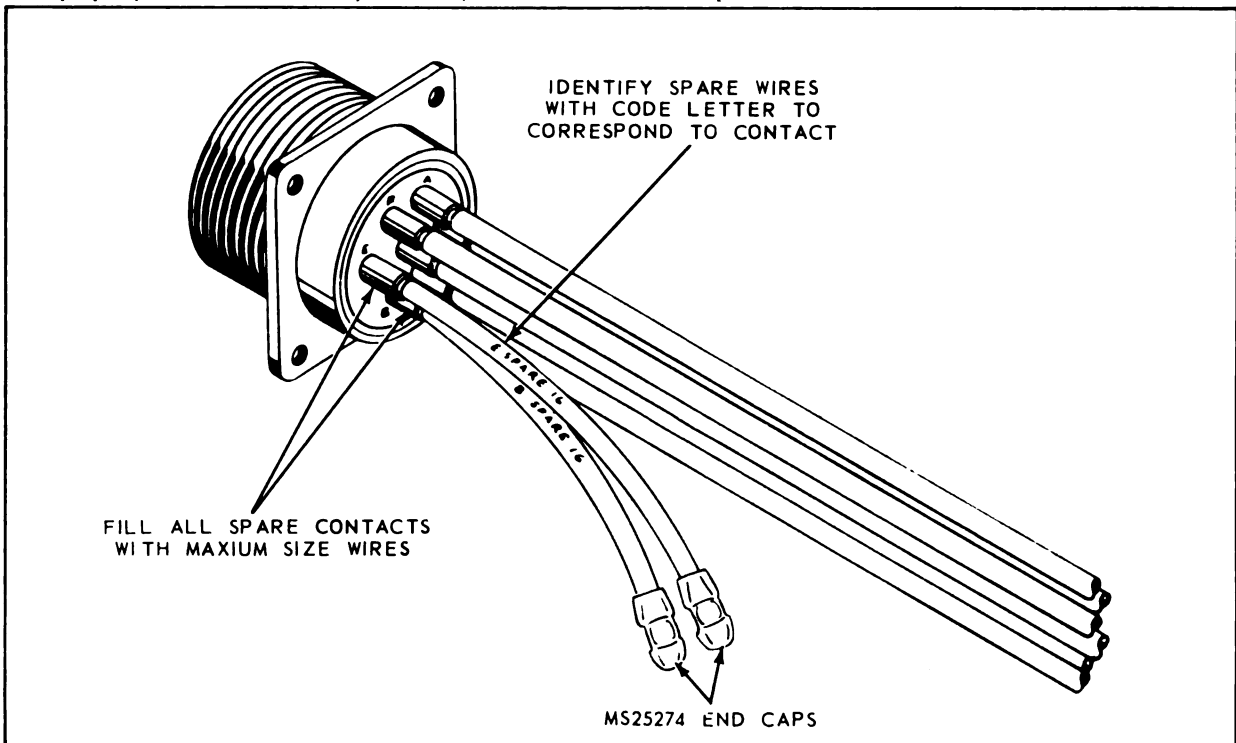

Figure 3-52. Spare Wires for Potting Connector
- c. Install spare wires on all unused pins. Use largest gage wire that would normally be attached to each contact. Spare wires are approximately 9 inches long. (See figure 3-52).
h. Insulate the ends of all spare wires. See figure 3-52. The preferred method of insulating a spare wire is to crimp it into an MS25274 wire end cap with tool MS25037-1A. See 3-63 for installing procedure. Non-standard end caps are also available for either stripped or unstripped wire.